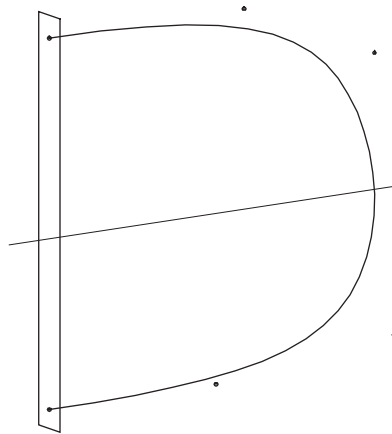

Fig. 10
- 4 In the Edit dialog, click **OK** (Fig. 10).